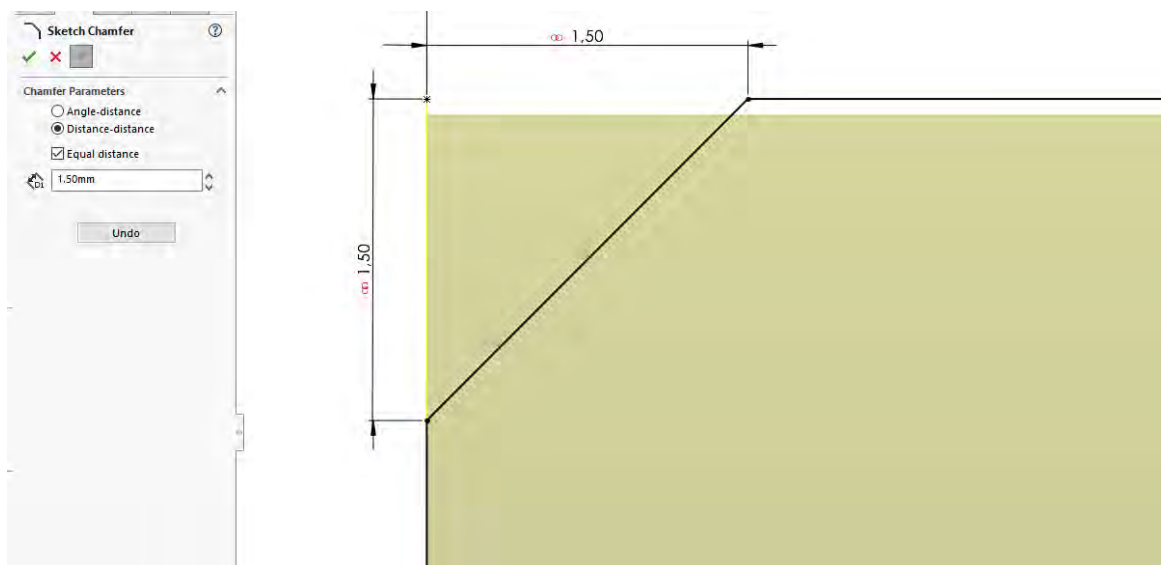

Figure 20 – Adding a chamfer to the main shaft profile sketch
- When sketching the main shaft profile, add chamfers in the appropriate places using the **Sketch Chamfer command** (Fig. 20).
- In the **Property Manager panel**, specify the chamfer parameters according to the shaft drawing (Fig. 20):